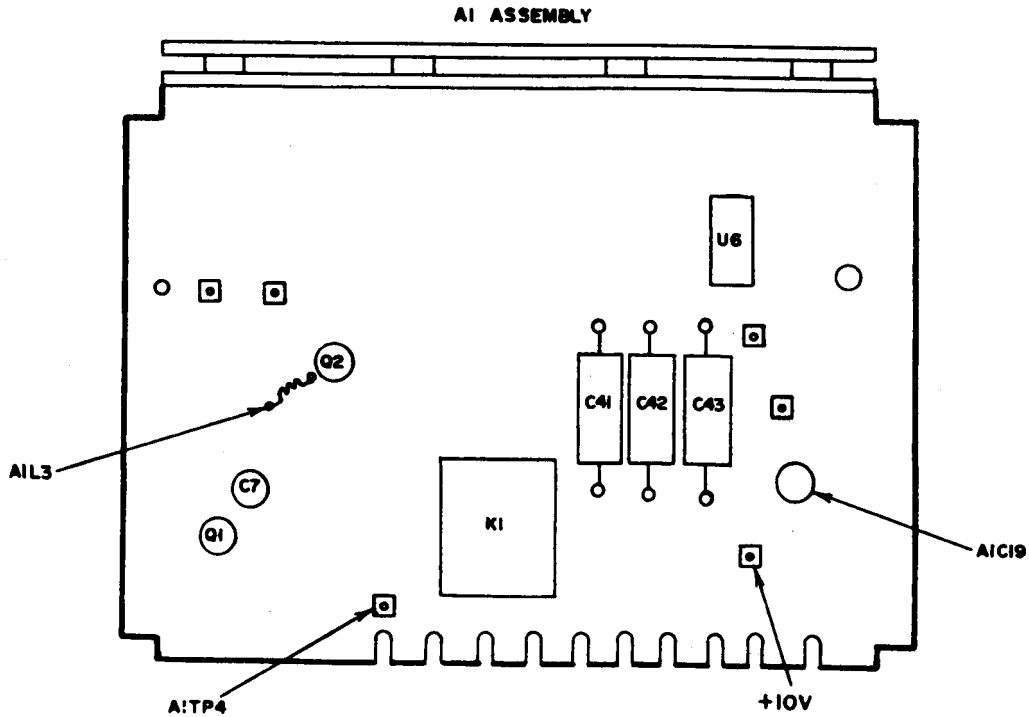

Figure 1. Calibration fixture - adjustment and test points.
- (1) Connect multimeter to A1TP4 (fig. 1), and chassis ground.
- (2) Set **TEST MODE** switch to **AM** and adjust **CARRIER FREQUENCY TUNE** control for -4.60 V dc indication on multimeter.
- (3) Unsolder loop A1L3 (fig. 1) and slide it in or out until measuring receiver indicates 400 MHz. Resolder loop A1L3 (R).